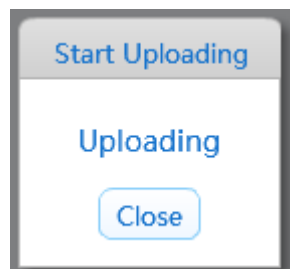
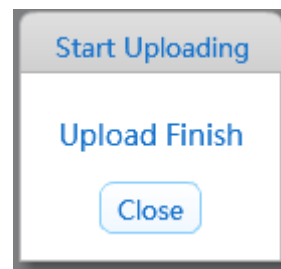

Figure 2-3-3
Figure 2-3-4
- 2) Click on any building blocks in the script area with the mouse. On the right side of the building blocks area, the corresponding building blocks program code will appear. Click "Upload to Arduino", start to generate the building blocks offline code and upload it to the Panther-Tank Robot. The screen will display a prompt window "Upload in", as shown in Figure 2-3-3; after the upload is completed, the prompt "Upload completed" will appear as shown in Figure 2-3-4.